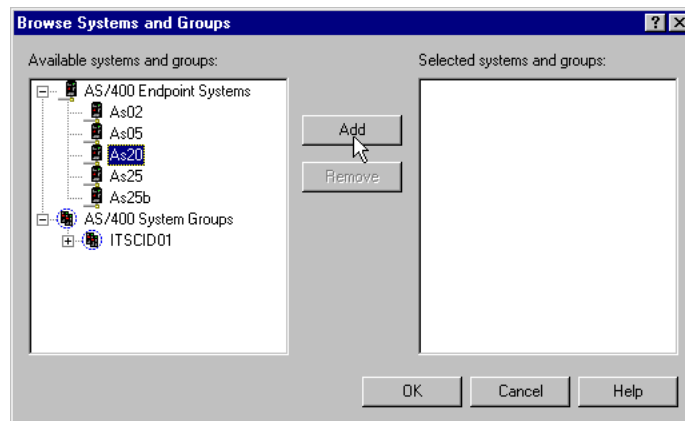

Figure 87. Browse Systems and Groups window
3. Click **Browse** to see the Browse Systems and Groups window, which is shown in Figure 87.